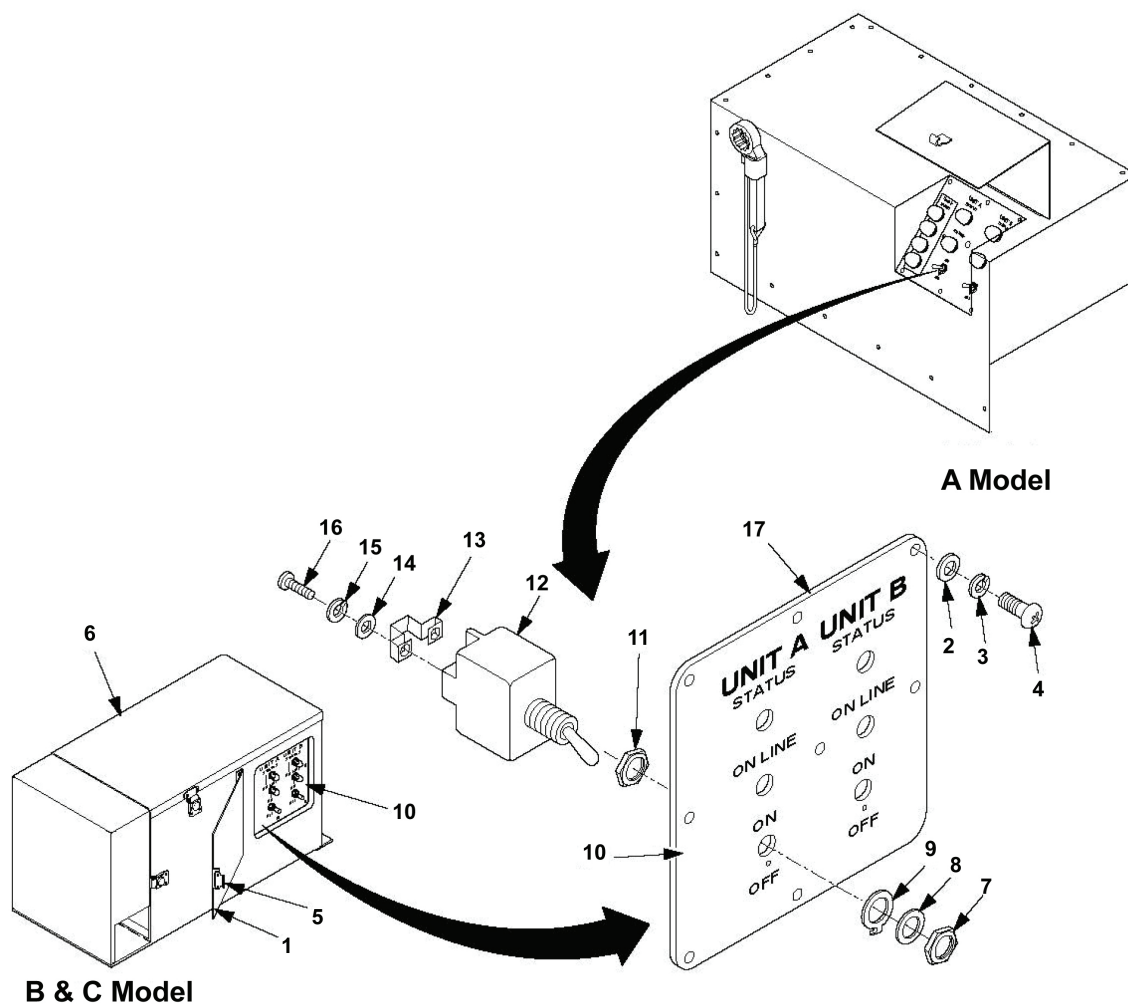

Figure 4-13. Toggle Switch Replacement (A, B, & C Models)
1. Release clamping catch (5, figure 4-13) and open the control panel access cover (1).
2. Remove cap screws (4), lock washers (3), and flat washers (2). Remove control panel assembly (10) from switch box cover (6). Discard lock washers (3).
3. Tag wires on terminals 3, 4, and 6 on back of switch (12).
4. Remove terminal screws (16), lock washers (15), flat washers (14) and conductor bus (13) from switch terminals. Discard lock washers (15).
5. Remove nut (7), lock washer (8), locking ring (9) and switch (12).